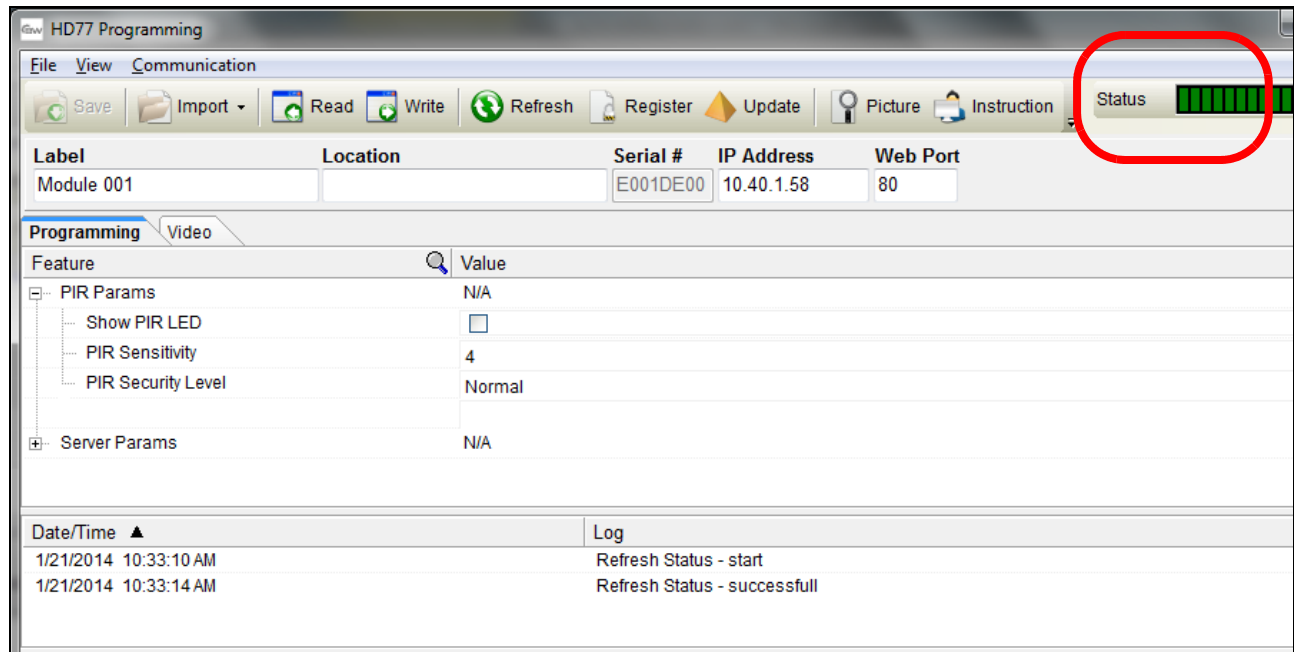

Figure 18 – PIR Parameters
5. Select the configuration parameters (See Figure 18 on page 21):